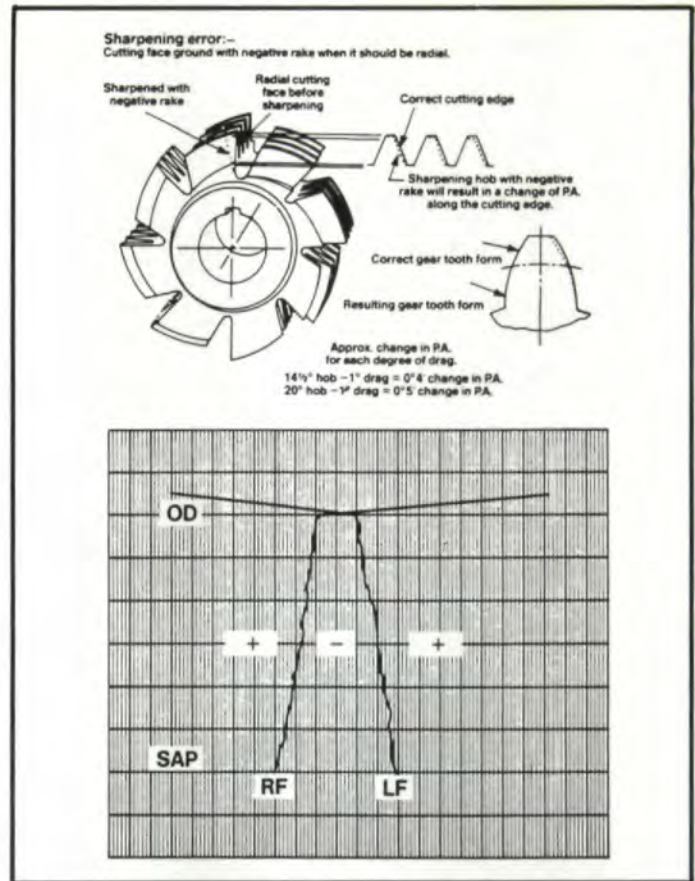

Fig. 16—Effect of positive rake resharpening error on profile.
3. The hob cutting faces sharpened with positive rake (Fig. 16)